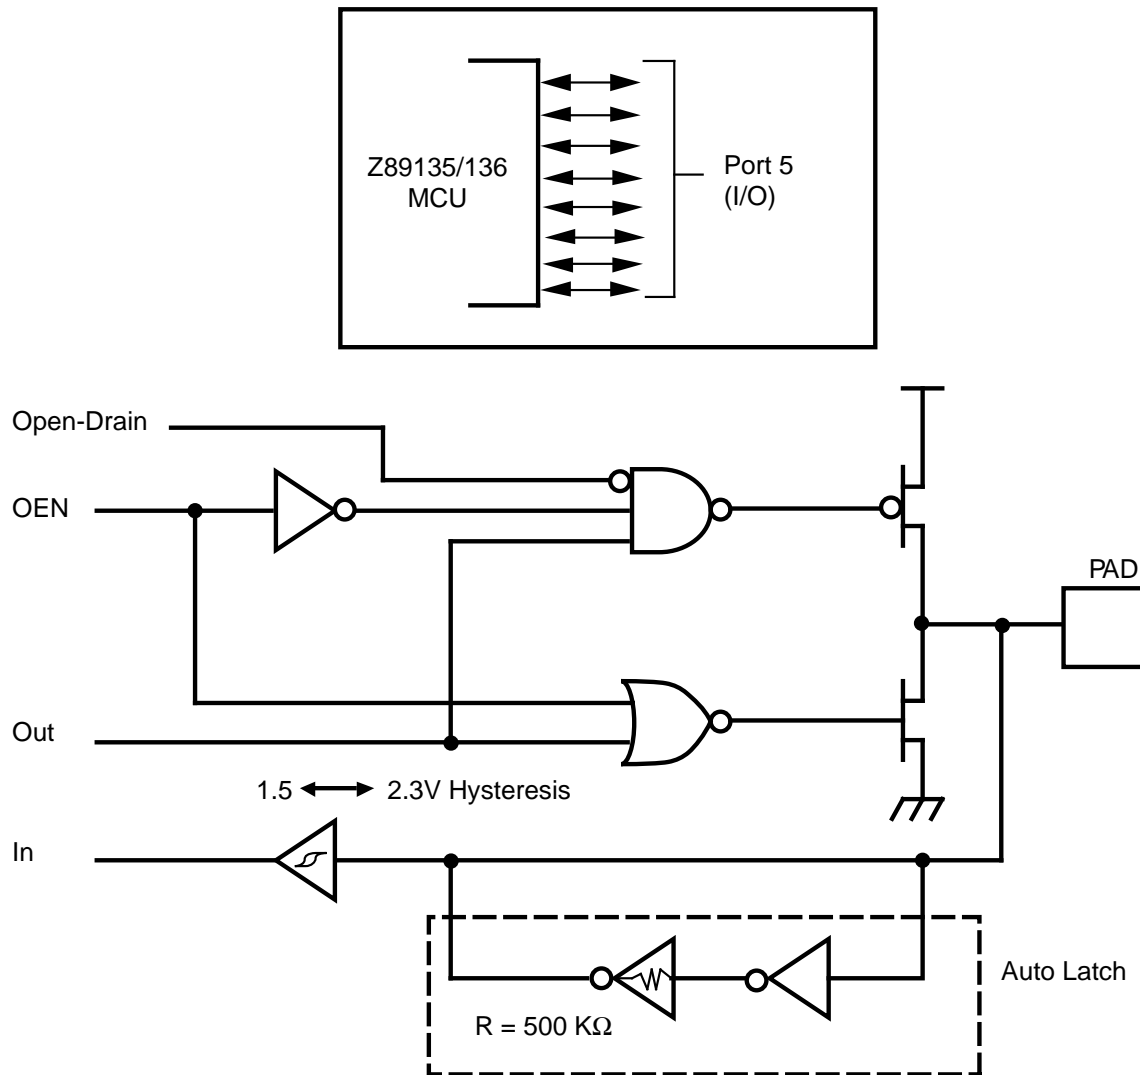

Figure 15. Port 5 Configuration
**Port 5.** (P57-P50). Port 5 is an 8-bit, bidirectional, CMOS-compatible I/O port (Figure 15). These eight I/O lines are configured under software control as an input or output, independently. Port 5 is always available for I/O operation. The input buffers are Schmitt-triggered. Bits programmed as outputs may be globally programmed as either push-pull or open-drain.